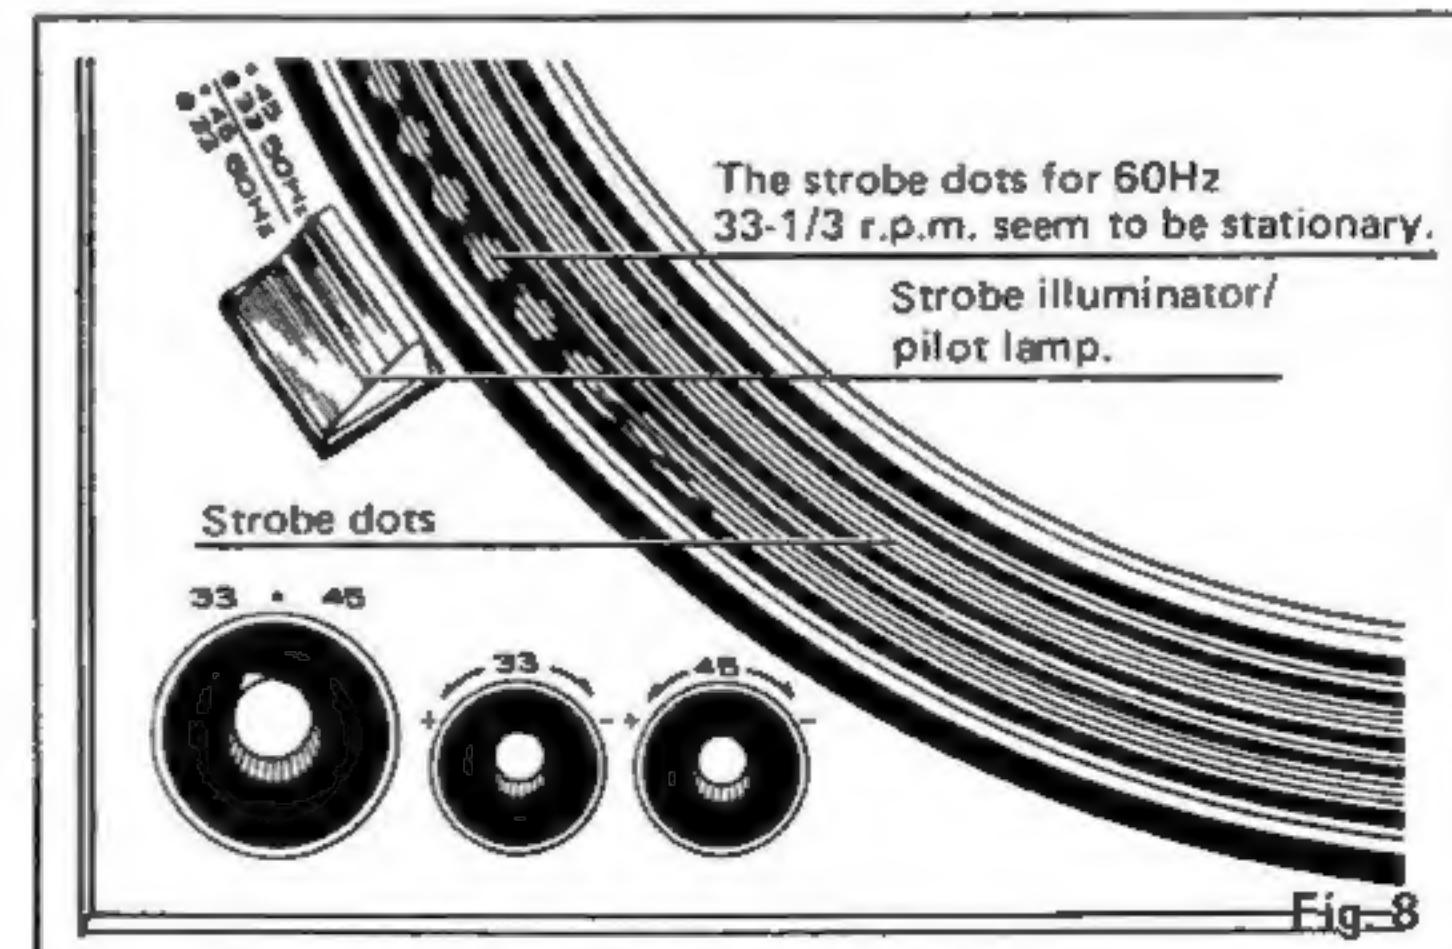

Fig. 8
1. Set the speed selector to the number of revolutions to be adjusted. (See Fig. 8)